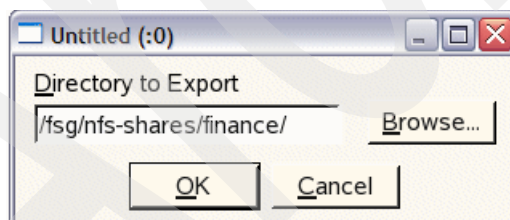

Figure 6-10 Add Directory /fsg/nfs-shares/finance for exporting
3. Click the **Add Directory** button. A window displays where you can specify the information for the exported shares (Figure 6-10).